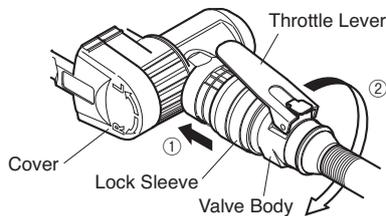
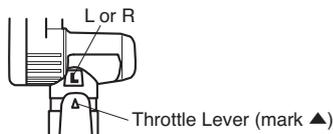

Fig. 6
Fig. 8
(Fig. 6, 7 and 8)
- (6) The rotational direction of the Abrasive Belt can be set to the same direction of L or R by adjusting the mark ▲ on the Throttle Lever to the mark L or R on the rubber of the top or bottom of the Housing as the direction of L or R indicated on the Cover as shown in Fig. 6. See Fig. 8.
- **When using the Abrasive Belt turning in R direction with a right hand or using it turning in direction L with a left hand, it may slip if a force is applied to a material from the top. When using it in these directions, keep pushing it forward. A job can be done in this way. (The rotational direction L or R of the Abrasive Belt is shown on the Cover. See Fig. 6.)**